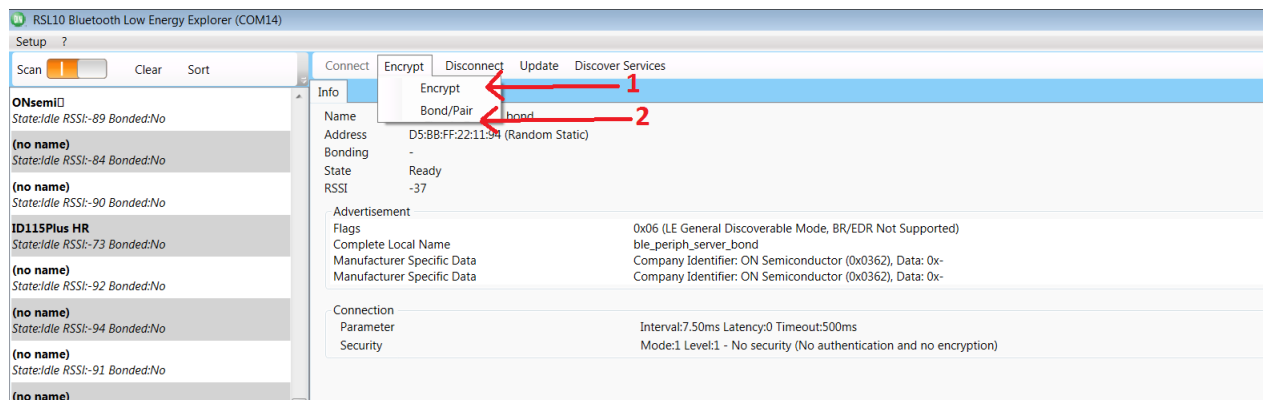

Figure 7. Menu for an Encrypted Connection
2. To change the connection to an encrypted one without saving bond information, press the **Encrypt** button as shown in Figure 7.
3. To have an encrypted connection and saved pairing information, press **Bond/Pair** as shown in Figure 7.